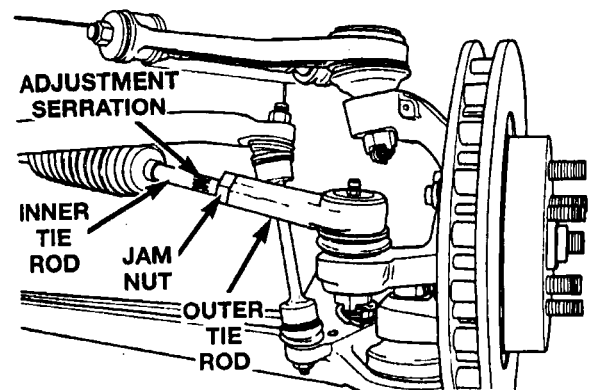

Figure 25 – Left Side Shown
- b. Loosen the front outer tie rod end jam nut (Figure 25).
- c. Remove the clamp from the front inner tie rod boot (Figure 25).